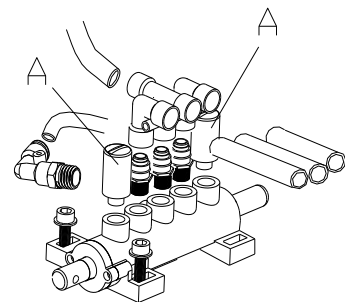

Fig 23
2. Loosen the valve mufflers (A) which belong to Jaws open and close Pedal and Bead Breaker Pedal; (**Fig 23**)
3. Clean the mufflers with compressed air, please replace it referring to the spare parts list if it is damaged. (**Fig 23**)